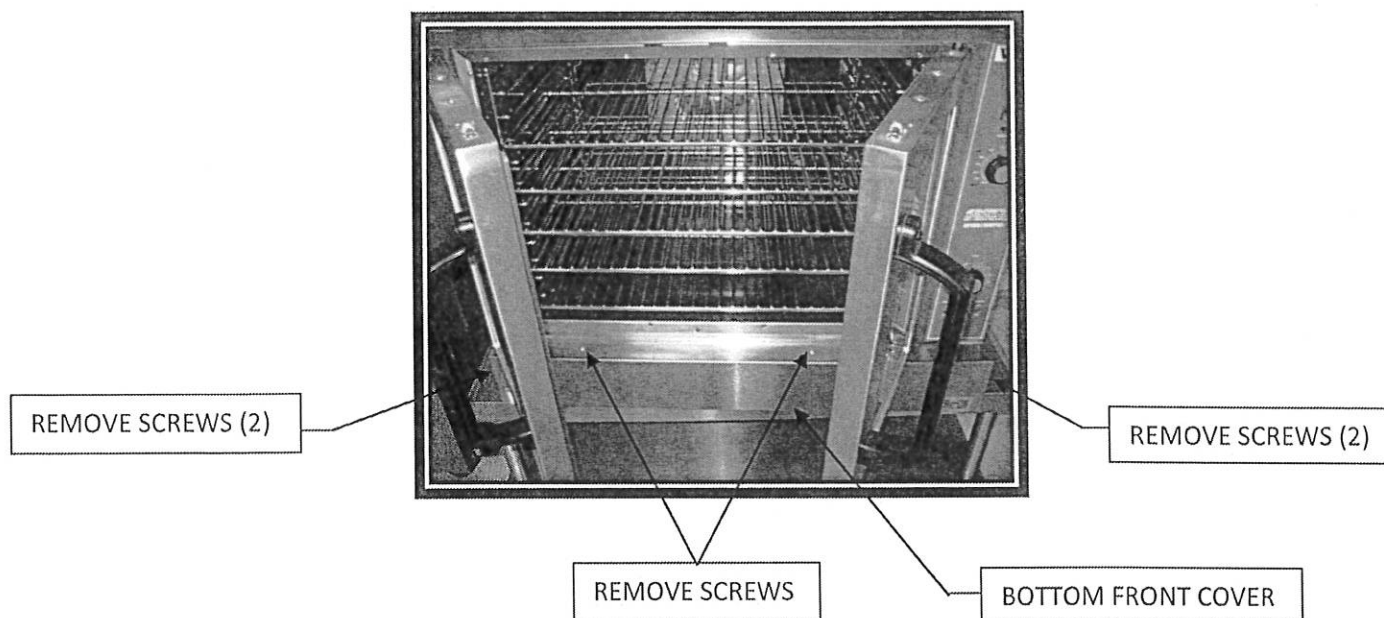

FIGURE 1
1. OPEN OVEN DOORS AND REMOVE BOTTOM FRONT COVER BY REMOVING SCREWS, TWO FROM EACH SIDE AND TOP OF BOTTOM FRONT COVER (TOTAL OF 6) AS SHOWN IN FIGURE 1. SCREWS ATTACHING CONTROL PANEL TO OVEN MAY NEED TO BE LOOSENED TO ALLOW FOR EASE OF REMOVAL AND RE-INSTALLATION OF BOTTOM FRONT COVER.